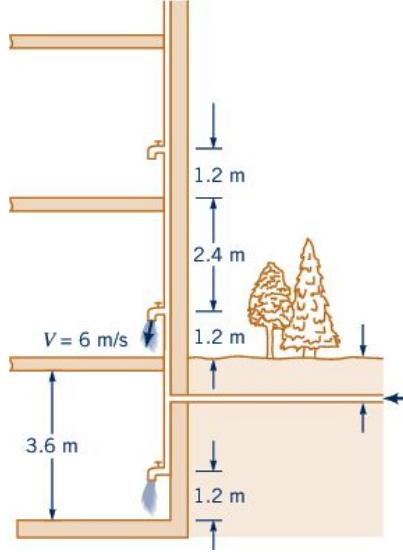

Figure 8: see problem 3
**Problem:** Water flows from the faucet on the first floor of the building shown in Figure 8 with a maximum velocity of  $6 \text{ m/s}$ . For steady inviscid flow, determine the maximum water velocity from the basement faucet and from the faucet on the second floor when all three faucets are open (assume each floor is  $3.6 \text{ m}$  in height).